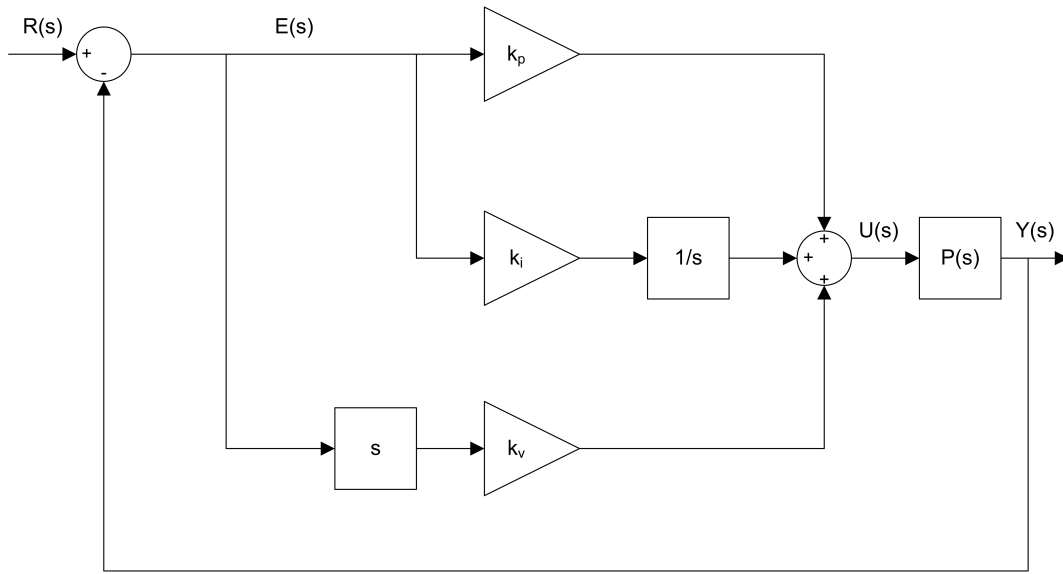

Figure 7.1: Block diagram of PID control.
The corresponding block diagram is given in Figure 7.1. The control action is thus a sum of three terms referred to as proportional (P), integral (I) and derivative (D). The controller Equation 7.2 can also be described by the transfer function